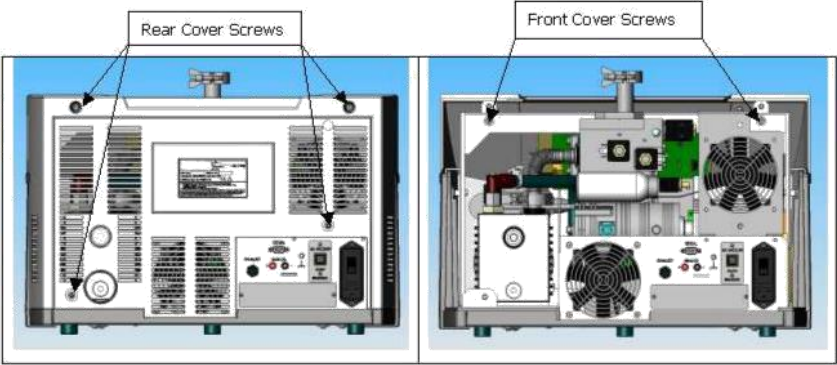

Figure 15: Covers
3. If a VS unit (top), using an extended length M5 Allen wrench (Figure 15: Covers).